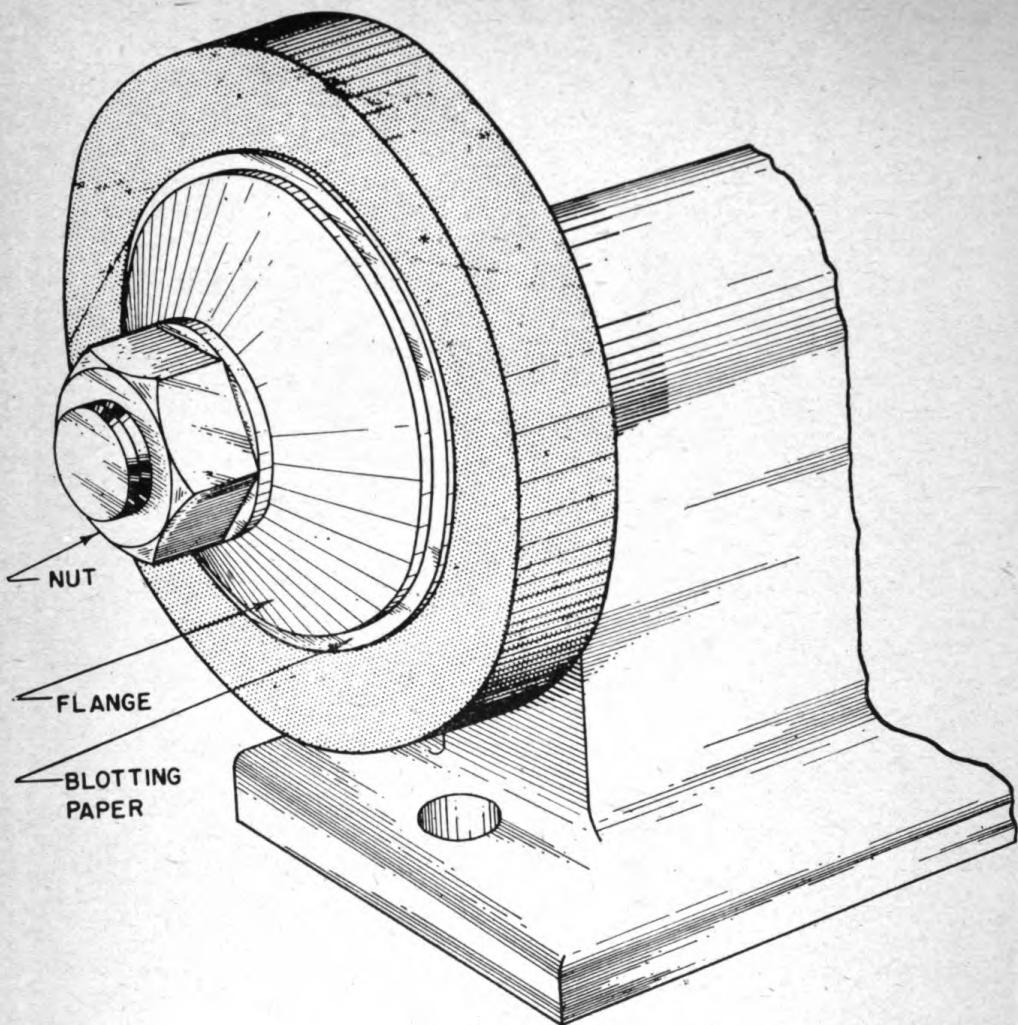

Figure 182. Mounted grinding wheel.
c. USE AND CARE. (1) When a wheel is installed on a grinder, it should first be tested to make sure it is sound. A sound wheel will give off a dull ring when held in one hand and tapped with a wooden object. A cracked wheel will give off a dull thud. A cracked wheel is definitely dangerous and should be discarded. A metallic object should not be used to test a grinding wheel as this might break it. The wheel should slip easily onto the arbor. Usually it will have 0.003- to 0.005-inch clearance. A piece of blotting paper or similar substance should be placed on each side between the wheel and the wheel flanges. (See fig. 182.) The